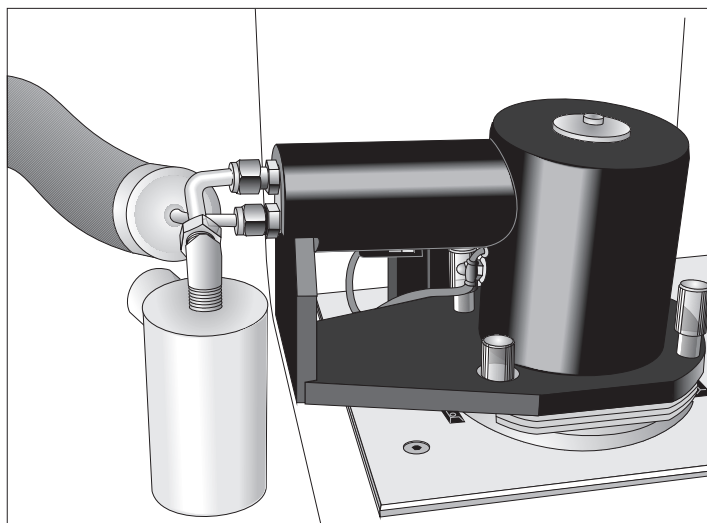

Figure 2.16
- c. Screw the accumulator onto the threaded part of the elbow fitting. You can position the opening to the accumulator as desired; it does not need to be tightly attached (see Figure 2.16).